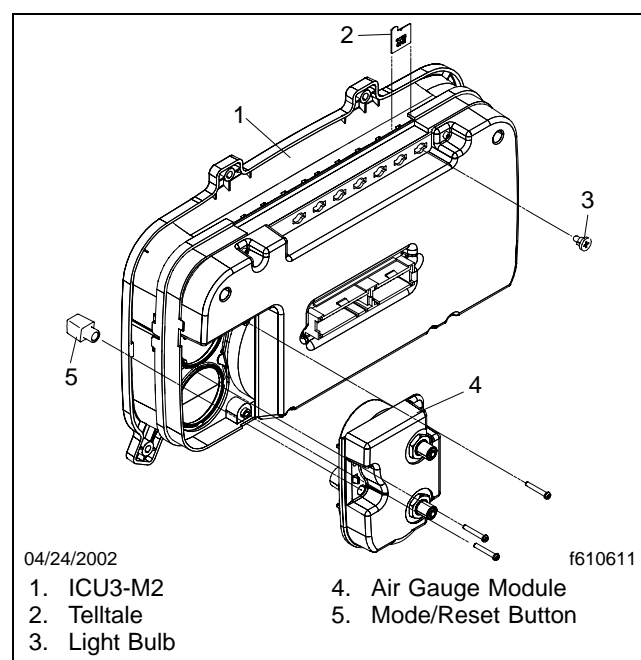

Fig. 2, ICU3-M2, Rear View (exploded)
3. Carefully place the ICU3-M2 face down on a smooth surface and remove the three Torx-head screws securing the air gauge module to the ICU. Do not remove the air gauge module cover. See **Fig. 2**.
10. Install the three Torx-head mounting screws and tighten them to secure the air gauge module. See **Fig. 2**.